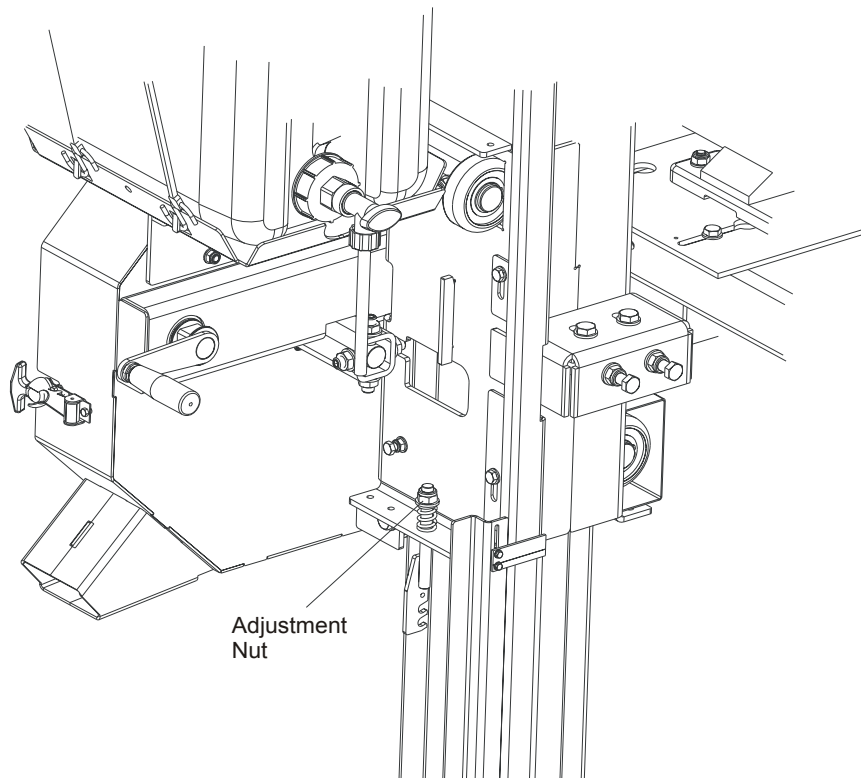

FIG. 3-7
1. Adjust the up/down chain tension as needed. Measure chain tension with the cutting head all the way to the top of the vertical mast. Secure the carriage with a chain at the top, or shim it underneath. Using the adjustment nut shown in Figure 3-7, adjust the chain tension so that there is 1" (2.5 cm) deflection in the center of the chain with a 5 lbs. (2.3 KG) deflection force.
See Figure 3-7. Use the adjustment nut shown below to tension the chain.